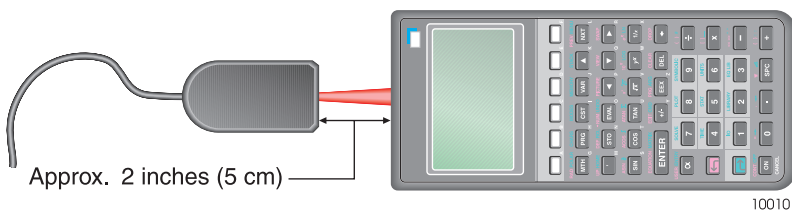

Figure 2.16: Handheld and IR Device Alignment
2. When you are ready to download files from the Handheld to the PC, place the IR ports of the Handheld and the IR device no more than four inches apart (Figure 2.16).